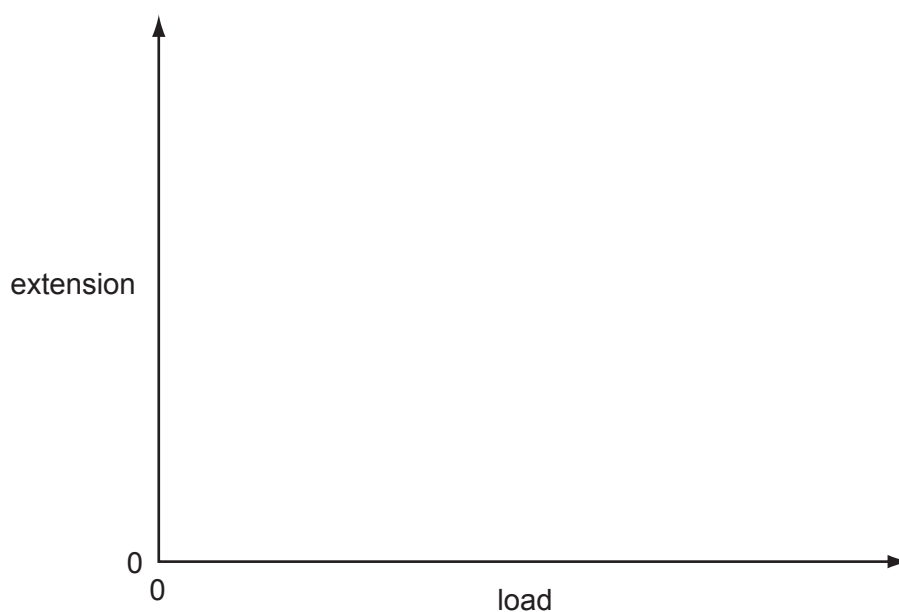

Fig. 1.2
- (i) Sketch, on Fig. 1.2, the shape of the graph you would expect.